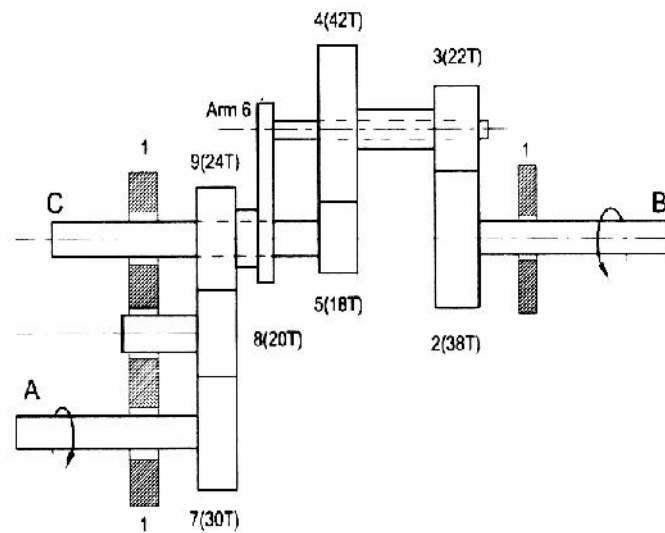

Figure 5
- b) For the gear train in the figure 5, shaft A rotates at 300 rpm and shaft B at 600 rpm in the directions shown. Determine the speed and the direction of rotation of shaft C.